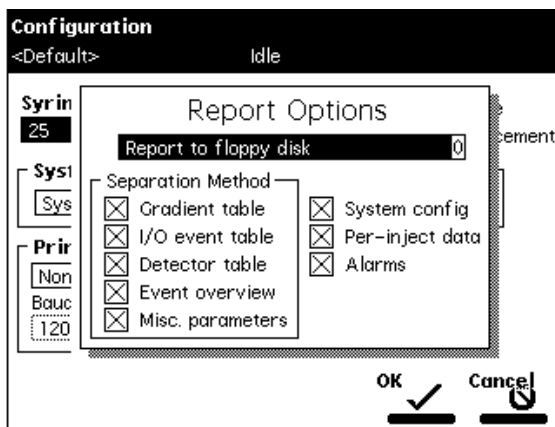

Figure 2-4 Report Options Dialog Box
1. Press the **Reports** screen key on the Configuration screen to display the Report Options dialog box (Figure 2-4).